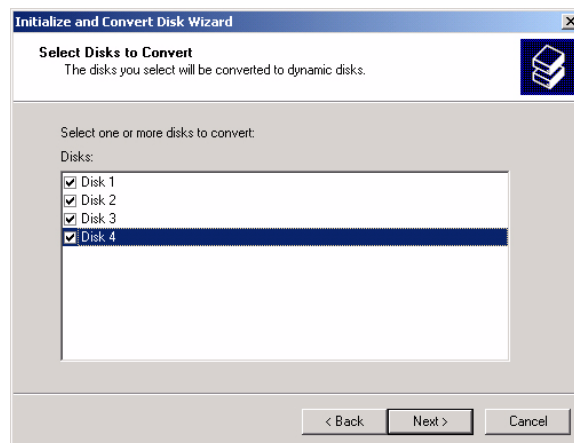

FIGURE 6-18. Initialize and Convert Disk Wizard - Select Disks to Convert Screen.
5. At the *Initialize and Convert Disk Wizard - Select Disks to Convert* screen, check the Disk 1-Disk 4 checkboxes (as applicable, per the number of vPODs). Click **NEXT >**. See Figure 6-18.